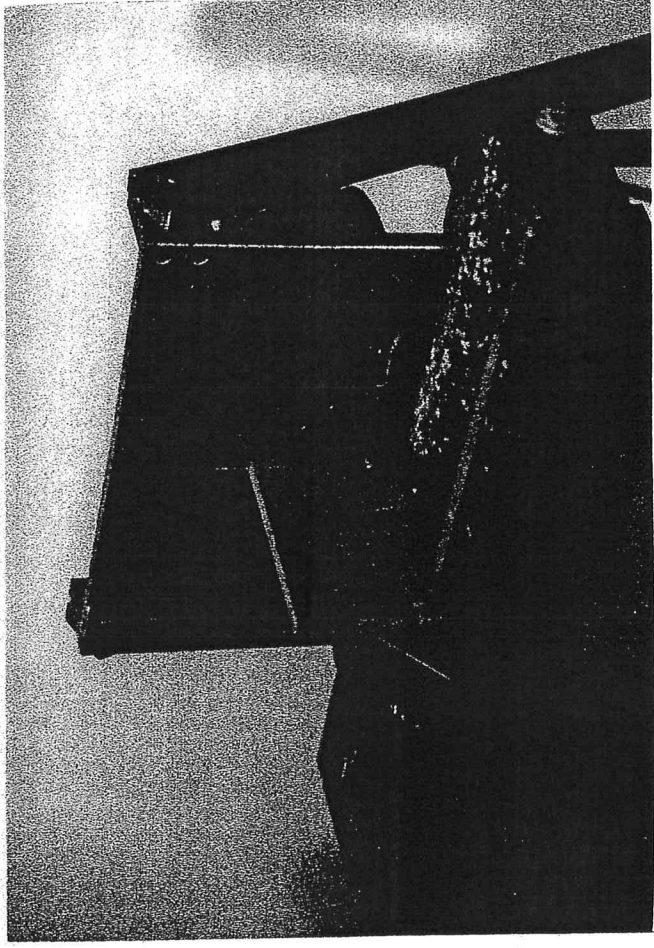

Fig. 31
6. Lower table 6 1/2 turns. Cut a socket in the end of workpiece B. (fig. 31)